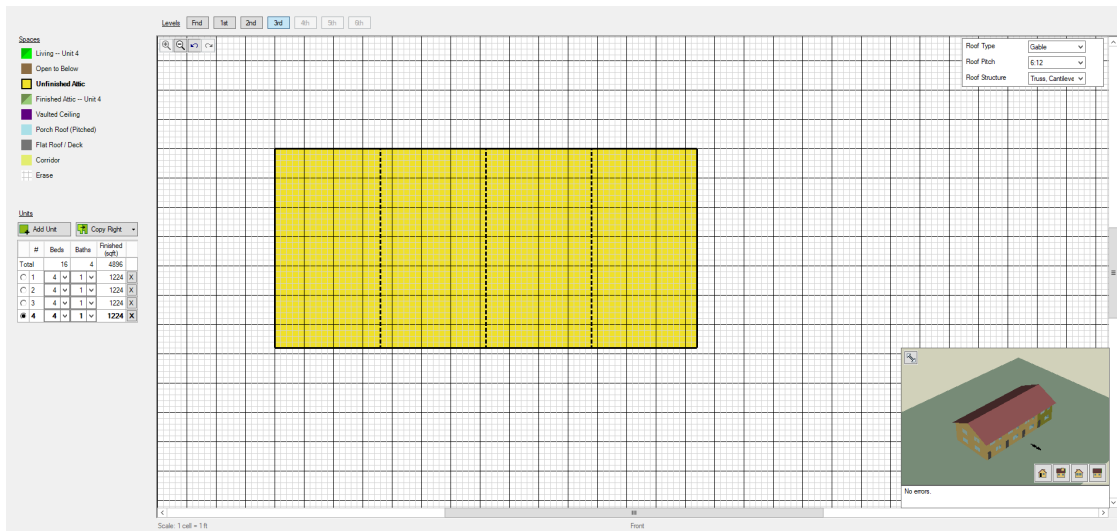

Figure 8: Third Floor of Model with Gable Roof
- Figure 8 shows the geometry including the 3D gable roof automatically created